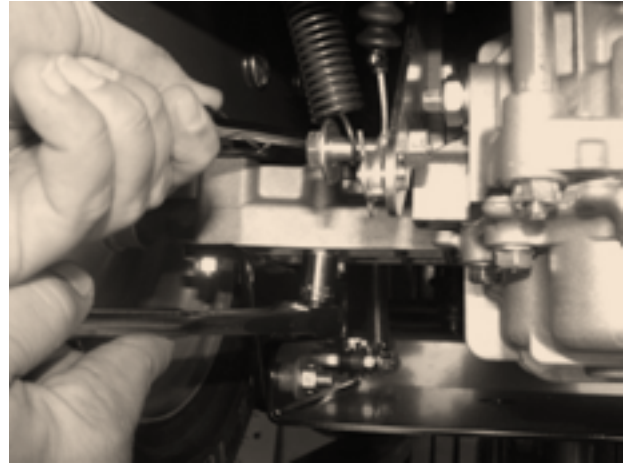

Figure 29
2. Using a 1/2 wrench and a 1/2 socket, remove both bolts holding interlock bracket to transaxle **Figure 29**.